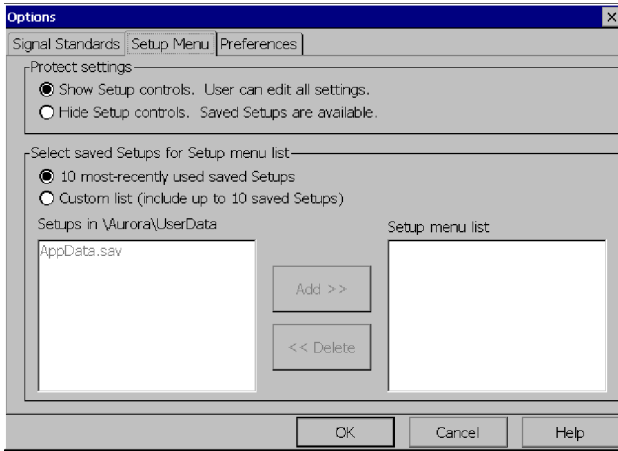

Figure 3-72: Specifying the List of Setups
3. Select the **Setup Menu** tab. See Figure 3-72.